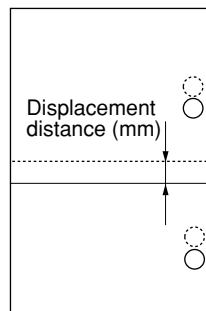

Figure 1-5-6
- When the punch hole is displaced toward the machine front (Figure 1-5-6), shift the retainer toward the machine rear (➡).